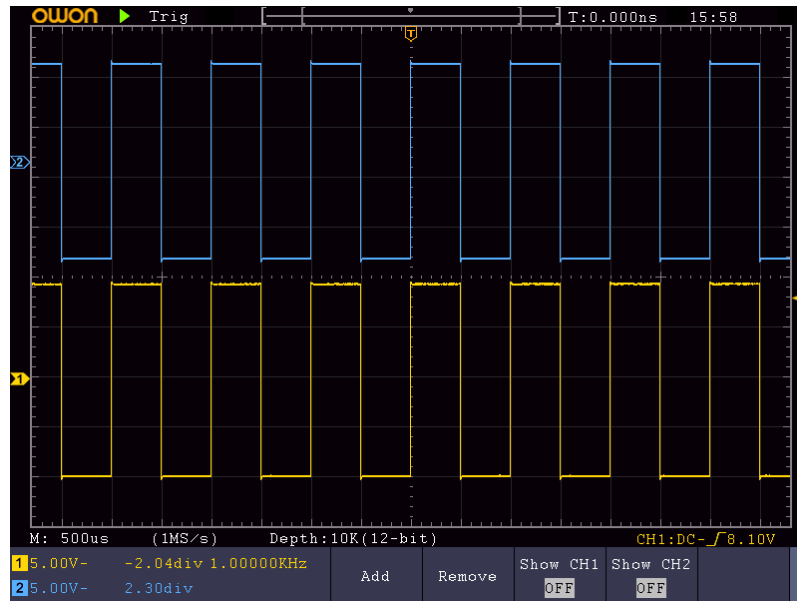

Figure 6-2 Waveform of Gain Measurement
- (1) Push the **Autoset** button and the oscilloscope will automatically adjust the waveforms of the two channels into the proper display state.
- (2) Push the **Measure** button to show the Measure menu.
- (3) Select **Add** in the bottom menu.
- (4) In the right menu, select **CH1** in the **Source** menu item.
- (5) In the left Type menu, turn the **M** knob to select **PK-PK**.
- (6) In the right menu, select **Add**. The peak-to-peak type of CH1 is added.
- (7) In the right menu, select **CH2** in the **Source** menu item.
- (8) In the left Type menu, turn the **M** knob to select **PK-PK**.
- (9) In the right menu, select **Add**. The peak-to-peak type of CH2 is added.
- (10) Read the peak-to-peak voltages of Channel 1 and Channel 2 from the bottom left of the screen (see Figure 6-2).
- (11) Calculate the amplifier gain with the following formulas.